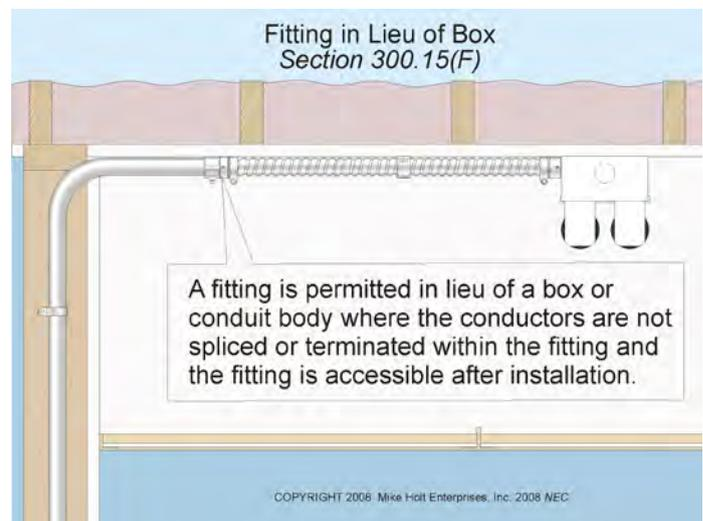

Figure 300–34
(I) Enclosures. A box or conduit body isn't required where a splice is made in a cabinet or in cutout boxes containing switches or overcurrent devices if the splices or taps don't fill the wiring space at any cross section to more than 75 percent, and the wiring at any cross section doesn't exceed 40 percent. See 312.8 and 404.3(B). **Figure 300–35**